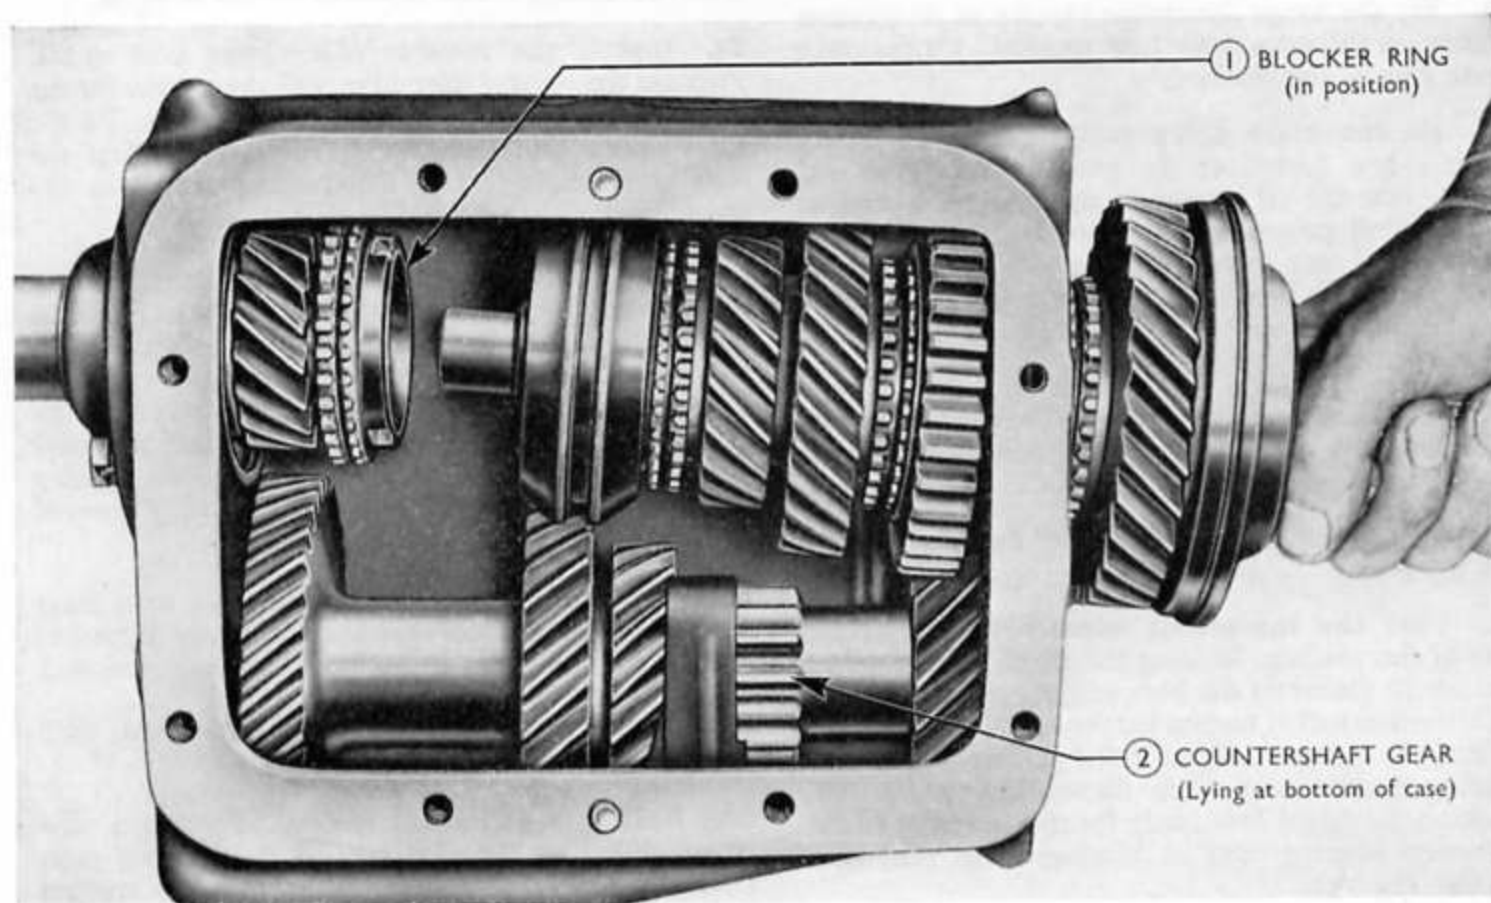

Fig. 13
22. Pass the mainshaft assembly through the rear of the gearbox, locating the mainshaft spigot on the needle rollers in the bore of the main drive gear. As the mainshaft is tapped in, the sandwich plate will fit into the recess provided in the gearbox. Align the mating marks made when dismantling which will position the dowel hole ready for the assembly of the extension housing (and its locating dowel pin) later on (see Fig. 13).